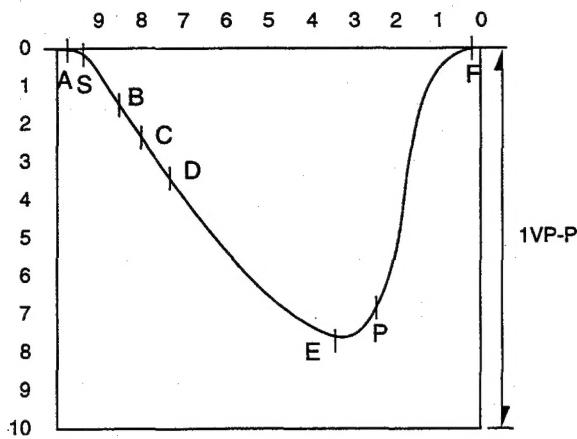

Fig. 3
2. Adjust T302 to make the marker point "P" of VIF waveform to AROUND the maximum amplitude as fig. 3 (Relative markers frequency see table 1.)